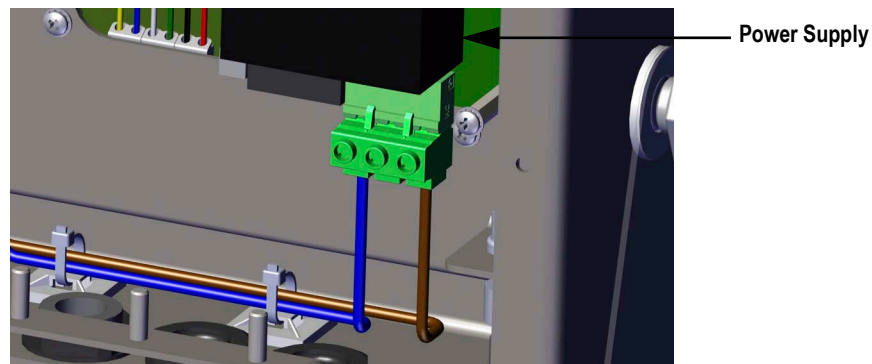

Figure 2-20. Connect AC Wiring
1. Run the cable up through the cord grip (not included), see Figure 2-20.
3. Run the other two wires down the back of the indicator and connect them to the three pin plug (PN 152334) that connects to the power supply board, see Figure 2-20 and Table 2-4 on page 31.